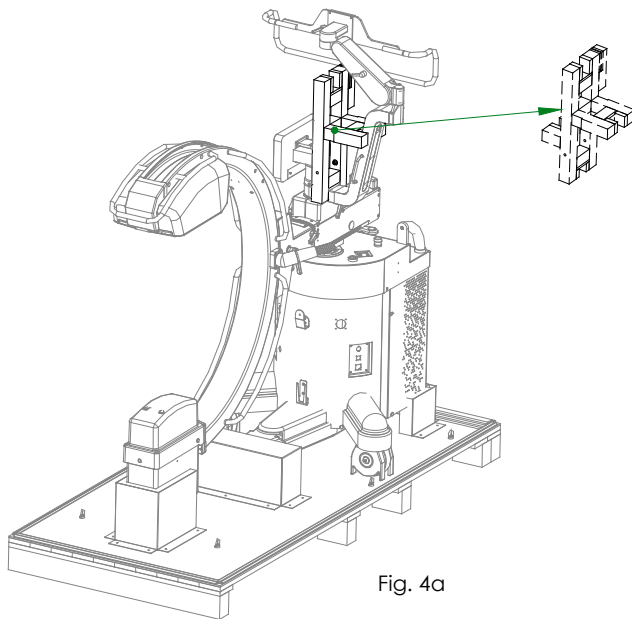

Fig. 4a
- 3 With the brake lever unlocked, it is possible to pull out the wooden support (fig. 4a).